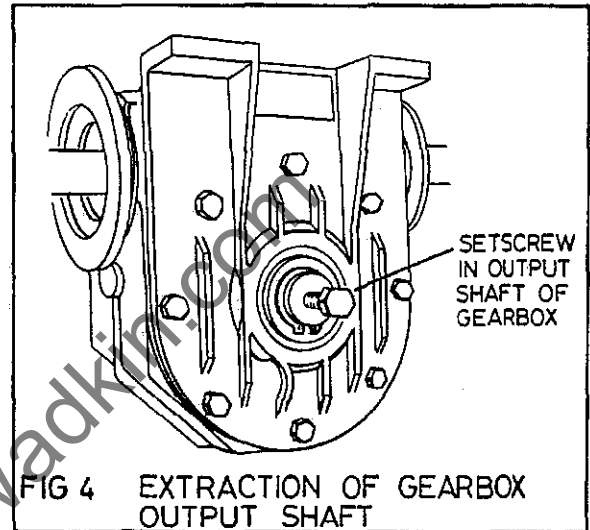

FIG 4 EXTRACTION OF GEARBOX OUTPUT SHAFT
Replacing Bottom Feed Roller Shaft Bearings (Fig 4 and 5)
- 5) The output shafts of the 'siti' gearboxes which connect to the universal couplings have a 10mm tapped hole in the face. Insert a setscrew to full thread depth of each in turn and use this to extract the output shaft approximately 50mm (see Fig 4).